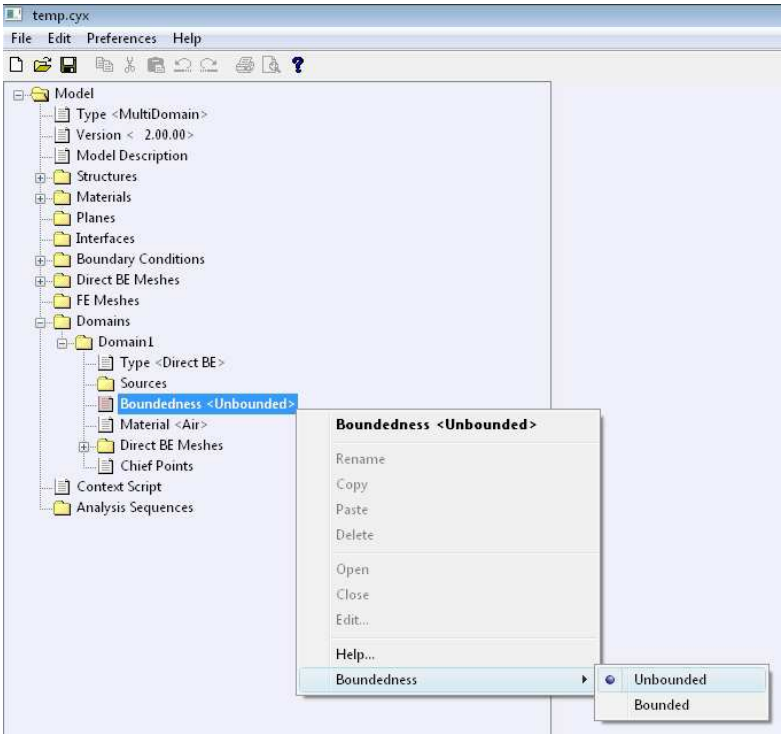

Figure 9.20: Specifying boundedness of the domain.
- Specify the type of acoustic problem by selecting: **Model** → **Domains** → **Domain1** or *<Domain Name>* → **Boundedness**. The radiation from a gearbox housing is an exterior or unbounded acoustic problem. Right-click on **Boundedness** and select: **Boundedness** → **Unbounded** as shown in Figure 9.20.